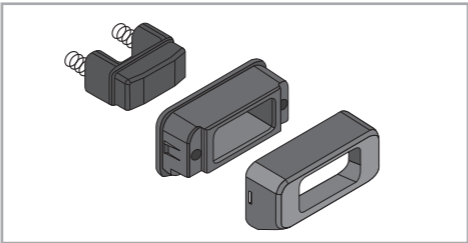

Figure 33: Parts of the door catch
- Step 1** - Assemble the door catch in the order shown in Figure 33. Ensure the springs remain in place.